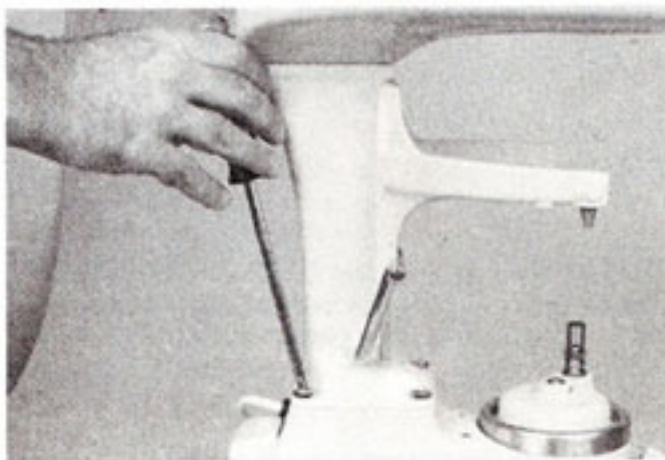

Fig. 98
- M. Place the gear case and motor housing on the column and screw in the four $\frac{5}{16}$ "-18 x $\frac{3}{4}$ " round head screws (Fig. 98). These screws must be tight (70 to 90 in. lbs.). Mixer is now ready for operation.